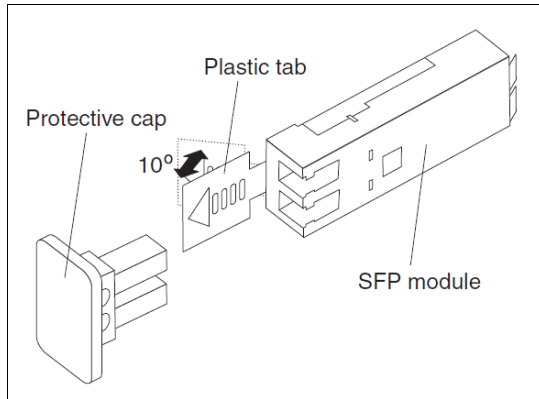

Figure 3-14 Unlocking the SFP module latch - plastic variety
- For SFP modules that contain plastic tabs, unlock the SFP module latch by pulling the plastic tab outward 10°, as shown in Figure 3-14.